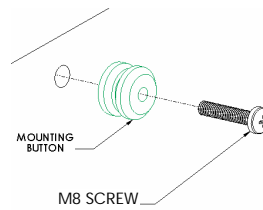
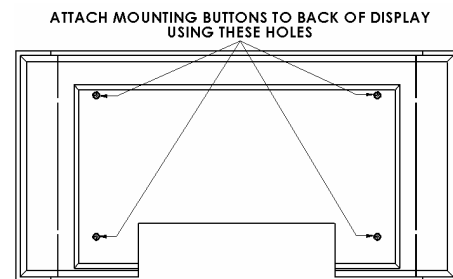

Figure 3
Figure 4
2. Attach mounting buttons to display using the M8 screws provided (see Figure 3 & Figure 4).